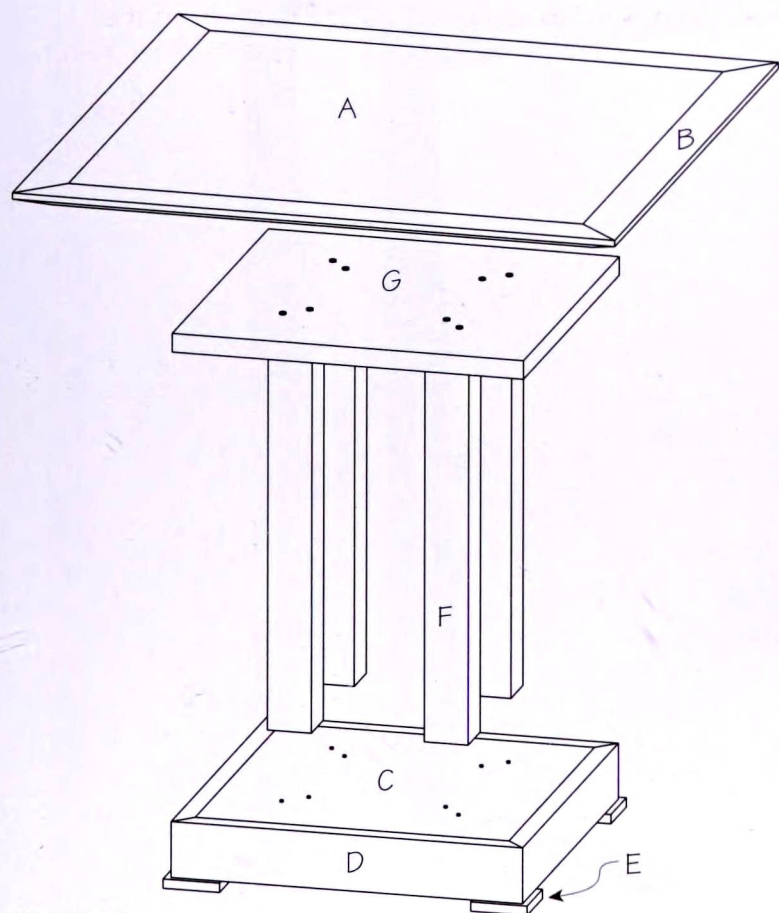

Figure 4
7. Plane the extra piece from Step 2 to ¾" thick. Cut four 2¼" lengths to make the feet (E).
8. Sand one face, one edge, and one end of each foot. Ease the corners. Then glue a foot to the bottom of each corner of the base assembly, so that the foot protrudes ¼" on each side. See figure 4.